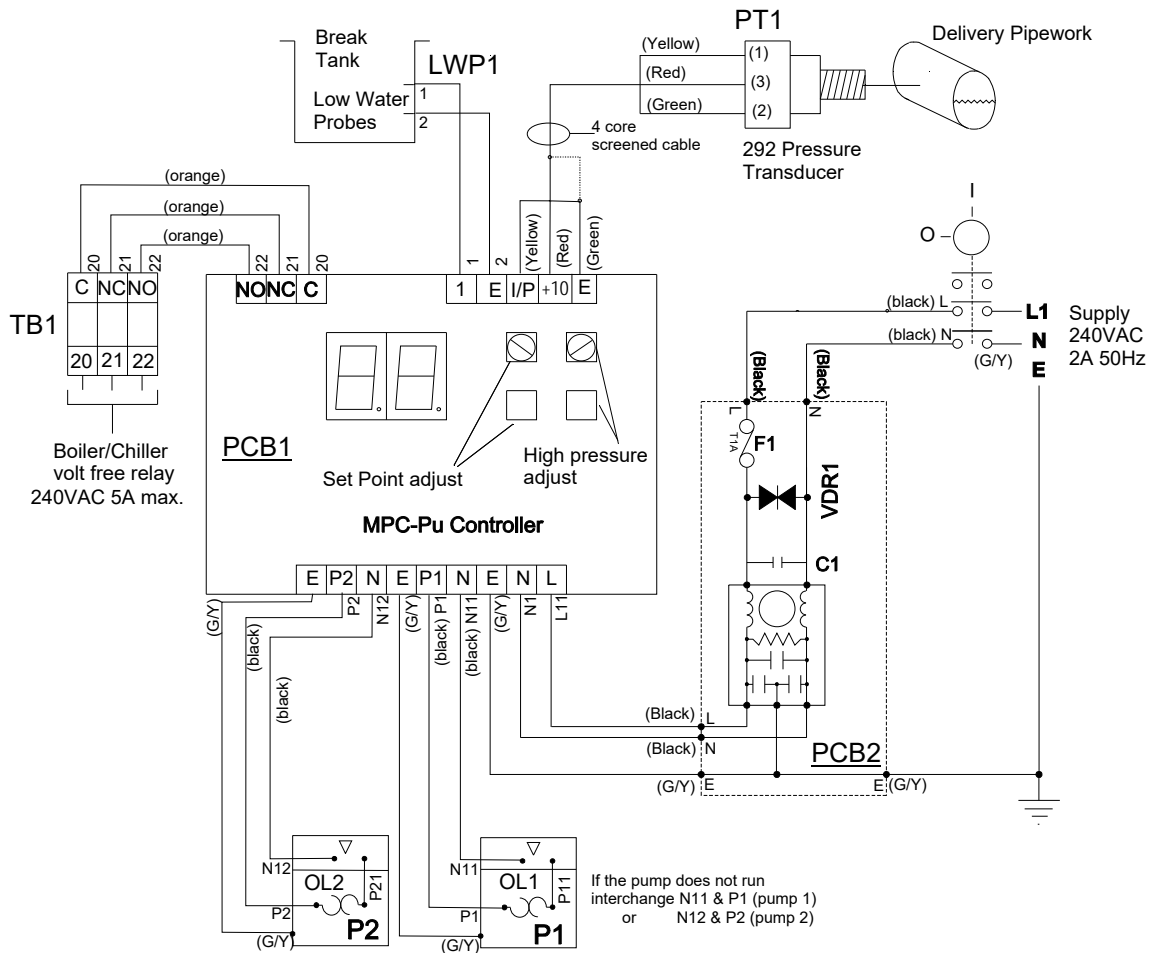
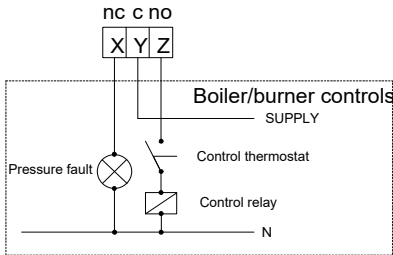

Fig 1.3a Typical 2ETM40 (standard) Wiring Diagram
Fig 1.4 Typical 2ETM40-E (BMS Enhanced) Wiring Diagram
- 1.3.6.3 Connect incoming electrical mains supply to identified terminals in panel (see fig.1.3a for 2ETM40 [standard] or fig.1.4 for 2ETM40-E [BMS Enhanced]). Ensure voltages and frequency indicated on the motor nameplates and wiring diagrams correspond with supply mains data and that the supply fuse ratings are correct for the total current rating of the equipment. Refer to wiring diagram supplied with the unit or AquaTech-Pressmain Ltd.
- 1.3.6.5 For 2ETM40-E (BMS Enhanced) units: Make any BMS connections required to terminals A-Z on Interface pcb card inside control panel. Connect boiler/chiller terminals nos. X,Y,Z on interface card in series with the boiler/chiller control circuits so that in the event of a fault condition occurring the boiler/chillers shut down and remain inoperative until the fault condition is rectified. (See fig 1.4). Boiler relay is energised for normal condition and releases to a high or low-pressure alarm fault condition.
Flashing display giving type of fault and a various volt free output signals on BMS enhanced models. (see wiring diagram provided with unit to see which volt free signal relays are present. Typical example shown in fig. 1.4).